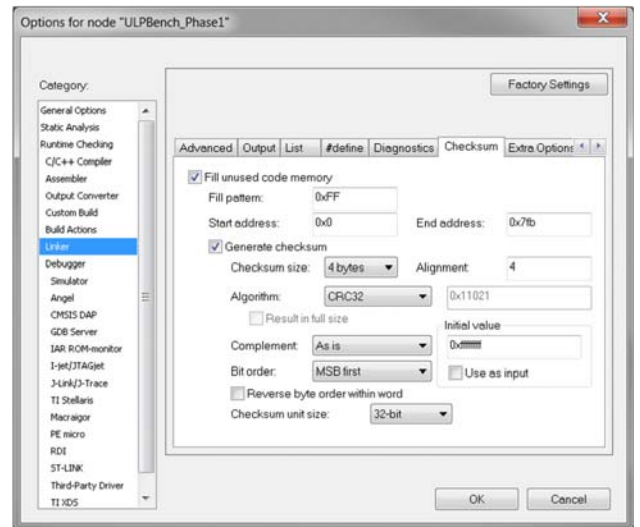
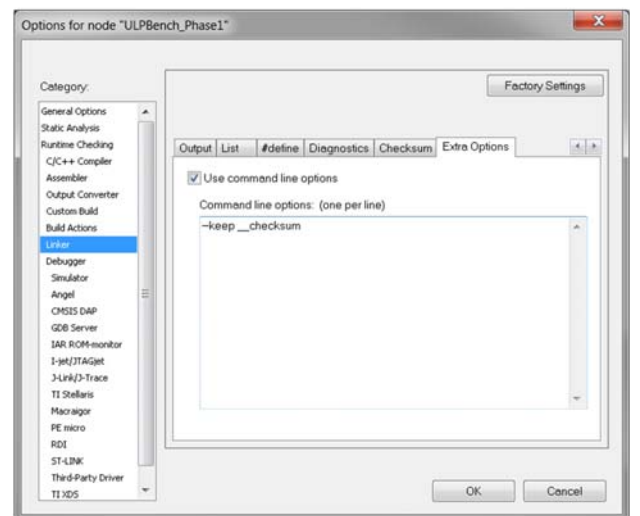

Figure 7. Linker Menu—Checksum Tab
Figure 8. Linker Menu—Extra Options Tab
4. A 32-bit cyclic redundancy check (CRC) checksum stored in the **Signature** field enables user code to request an integrity check of user space. The user can configure the checksum as shown in Figure 7 and Figure 8 (both configurations can be found in the **Linker** menu).